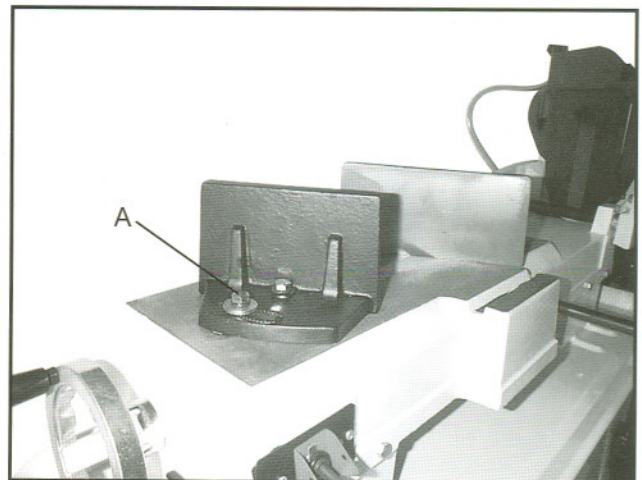

Fig. 10
2. Position the vise and re-install as pictured in Fig. 10. Pay particular attention to the bolt hole location.
4. Adjust the movable vise parallel to the fixed vise by loosening bolt (A, Fig. 10), adjusting to parallel, and tightening bolt.